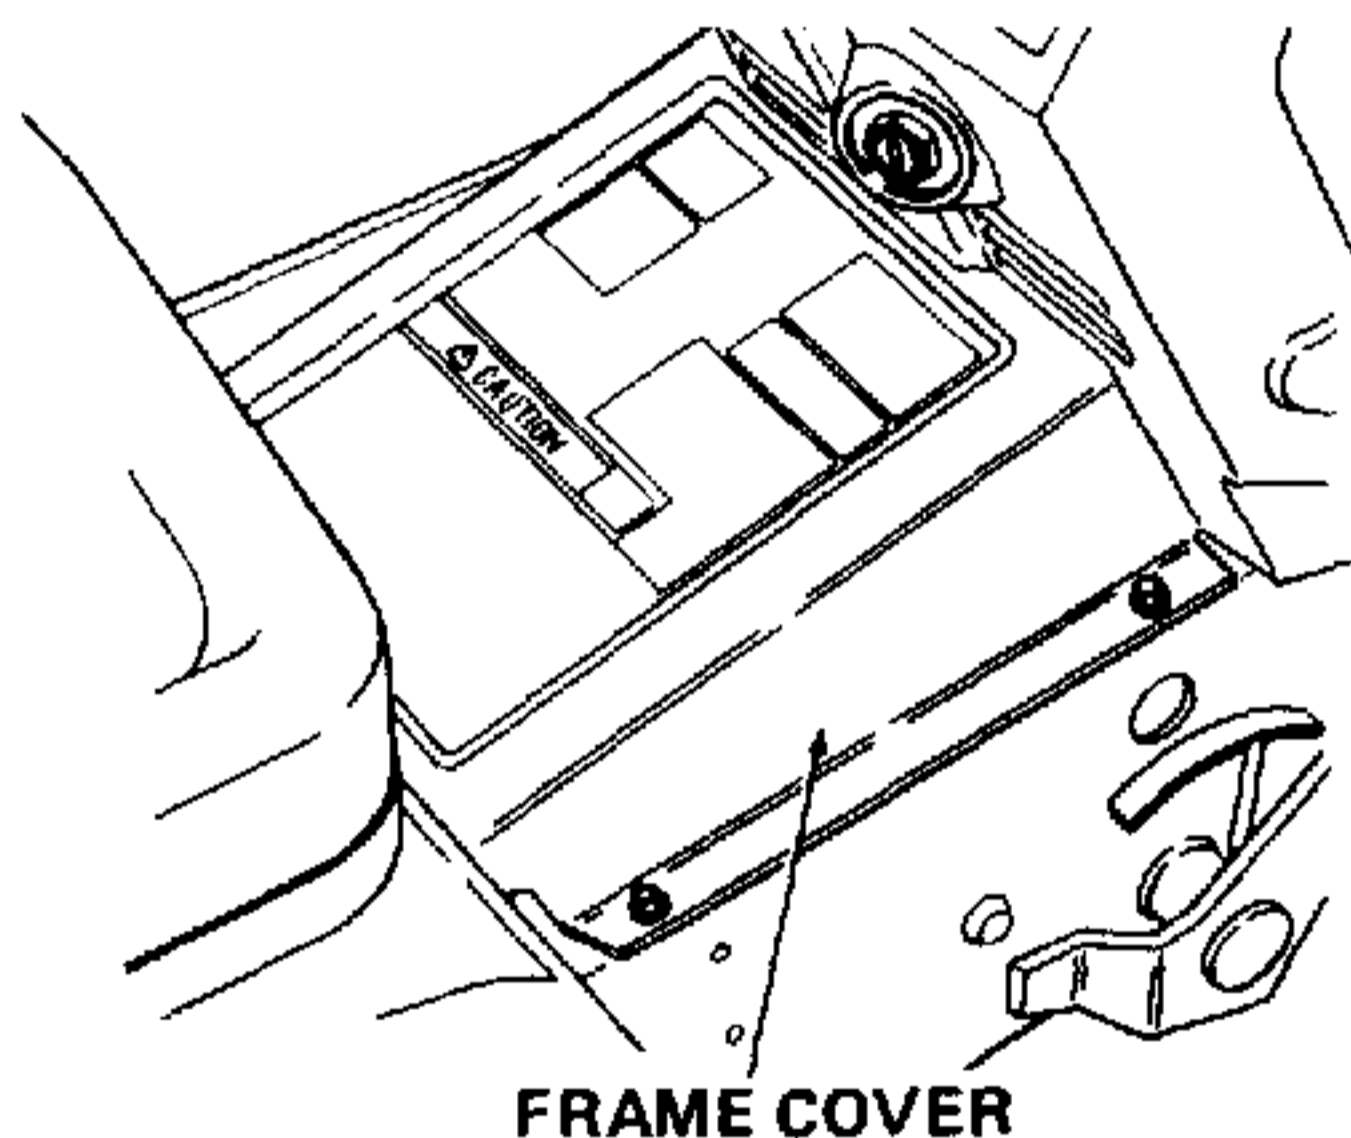

Figure 7-67. Removing Center Frame Cover.
6. Remove center frame cover by removing four self-tapping hex screws. Refer to Figure 7-67.